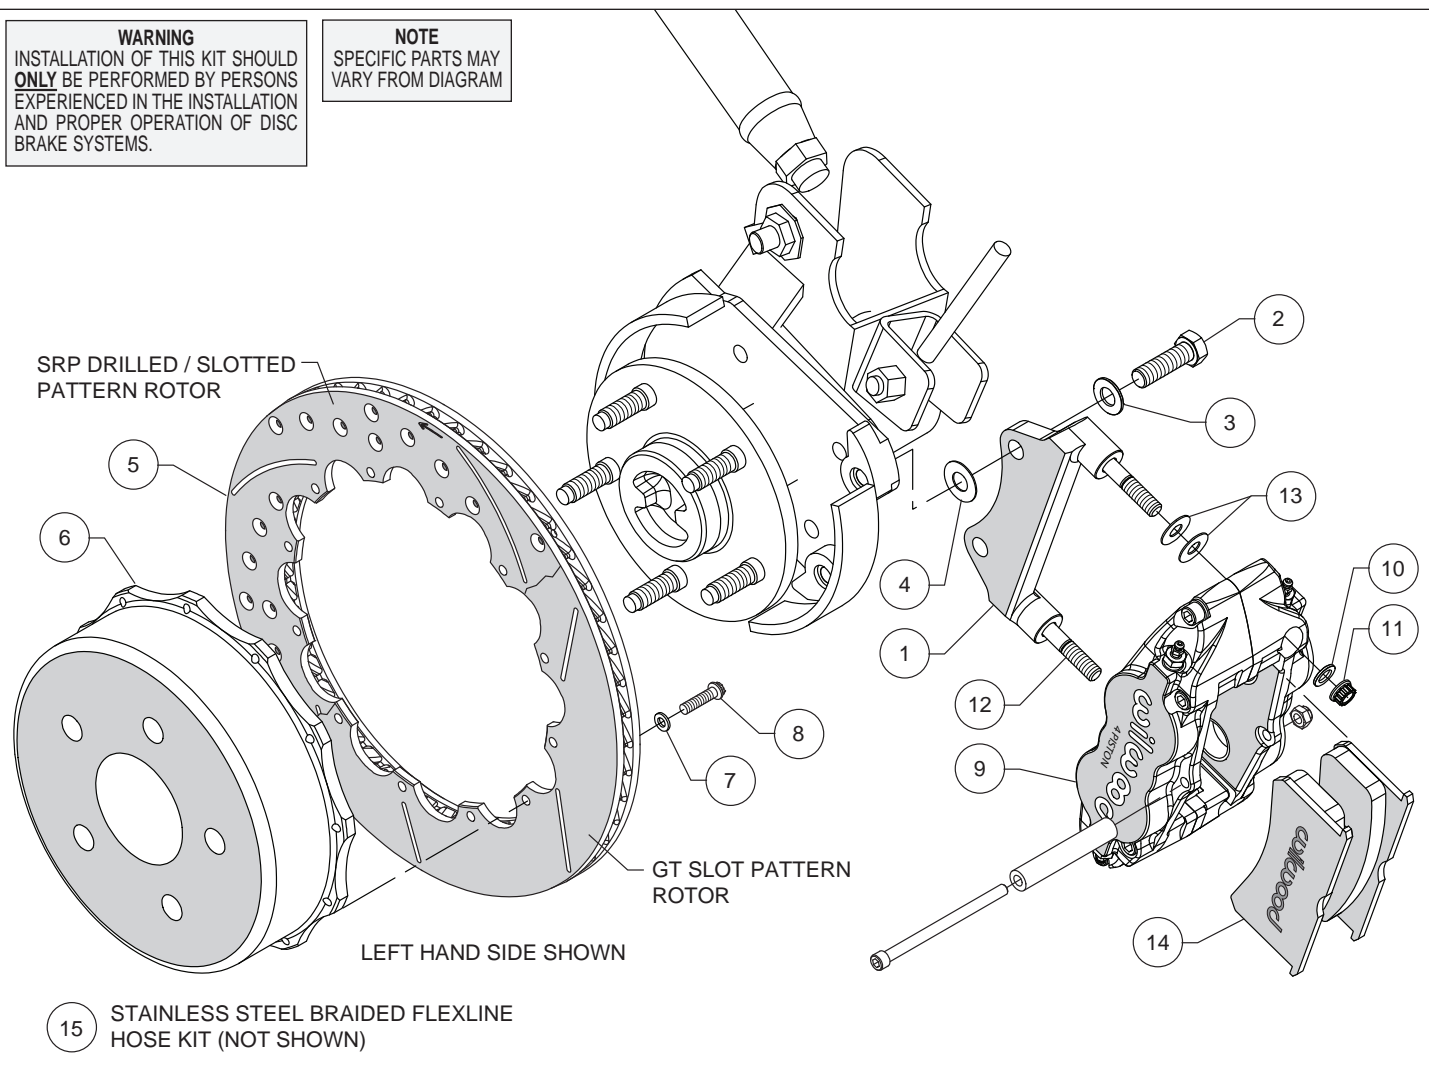
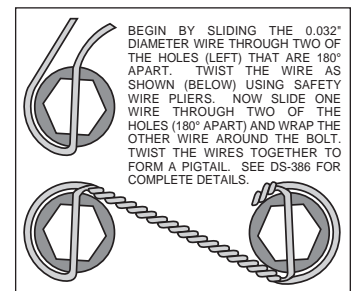

Figure 1. Typical Installation Configuration
Figure 3. Safety Wire Diagram
Assembly Instructions (numbers in parenthesis refer to the parts list and Figure 1 on the preceding pages):
- The caliper mount bracket (1) should initially be installed with clean, dry threads on the mounting bolts. Orient the bracket as shown in Figure 1, and install using mount bolts (2) and washers (3). Initially place one .033" thick shim (4) on each bolt between the bracket and upright, Figure 1. Temporarily tighten the mounting bolts. **NOTE:** The bracket must fit squarely against the mount bosses on the upright. Inspect for interference from casting irregularities, machining ridges, burrs, etc. Later, after the caliper alignment has been checked, the mount bolts will be secured using red *Loctite*® 271.
- Orient the rotor (5) and the hat (6) as shown in Figure 1 and Photo 2. Attach rotor to hat using bolts (8) and washers (7). Using an alternating sequence, apply red *Loctite*® 271 to the threads, and torque to 140 **in-lbs**. The bolts must be safety wired using standard 0.032 inch diameter stainless steel safety wire as shown in Figure 3. Please refer to Wilwood's data sheet DS-386 (available at www.wilwood.com/Pdf/DataSheets/ds386.pdf) for complete safety wire installation instructions.
- Lubricate the caliper mounting studs (12) with lightweight oil. Initially place two .035" thick shims (13) on each stud as shown in Figure 1 and Photo 4. Mount the caliper (9) onto the bracket (1) using lock nuts (11) and washers (10), Figure 1. Temporarily tighten the lock nuts and view the rotor through the top opening of the caliper. The rotor should be centered in the caliper, Photo 5. If not, adjust by adding or subtracting shims (4) between the bracket and the mounting bosses. Always use the same amount of shims on each of the two mounting bolts. Once the caliper alignment is correct, remove the bracket mounting bolts one at a time, apply red *Loctite*® 271 to the threads, and torque to 60 ft-lb.